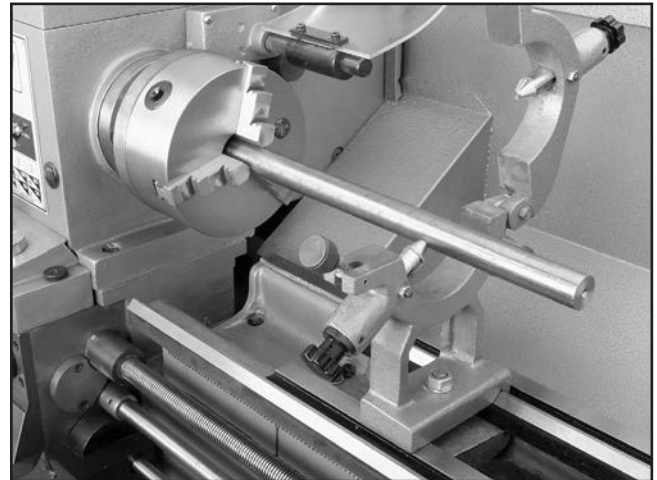

Figure 43. Workpiece positioned inside the steady rest.
4. Loosen the lock knob, swing it out of the way, then open the steady rest to fit the workpiece inside, as shown in **Figure 43**, then close and secure the top of the steady rest.